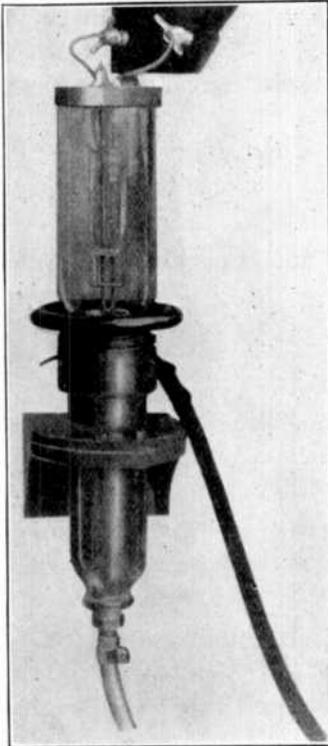

FIG. 50.—A water-cooled tube mounted in its water jacket.
*Answer.* High power tubes are cooled by means of water circulation. The anode (plate) of the tube is inserted in a water-cooled jacket so that heat generated at the plate will be quickly extracted. A complete water jacket assembly is illustrated in the photograph, Figure 50; the tube itself is shown in Figure 51. The tube is supported only by the water jacket and special precautions are taken to insure a water-tight joint by the use of a suitable gasket between